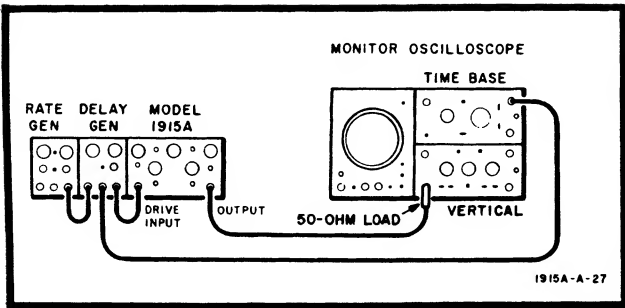

Figure 5-5. Monitor Oscilloscope Test Setup
- a. Connect equipment as shown in Figure 5-5.
*Connect equipment as shown in Figure 5-5.